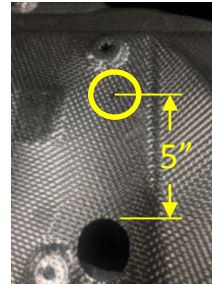

Figure 2
- Remove heat shields** - Using a 10mm socket remove the nuts holding the heat shield, using a 7mm socket remove the screw holding the heat shield to the wheel well liner, remove the heat shield. Cut a 1.5" hole forward of the center attachment in the heat shield to clear the middle fastener for the hitch, see **Fig. 2**. Set fasteners aside for reinstallation.
3. Remove heat shields - Using a 10mm socket remove the nuts holding the heat shield, using a 7mm socket remove the screw holding the heat shield to the wheel well liner, remove the heat shield. Cut a 1.5" hole forward of the center attachment in the heat shield to clear the middle fastener for the hitch, see **Fig. 2**. Set fasteners aside for reinstallation.